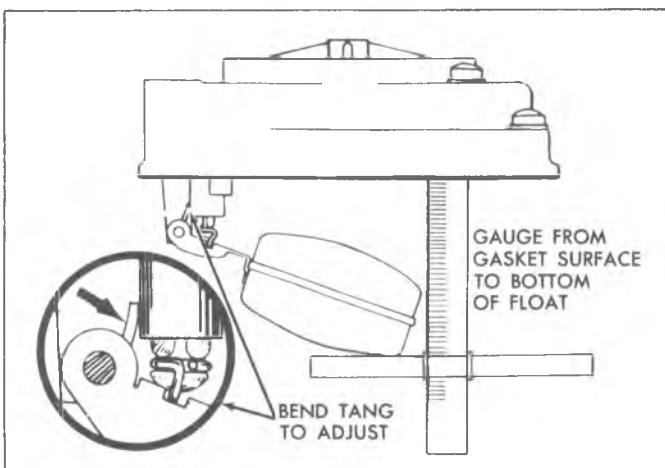

Fig. G8--Float Drop Adjustment (Brass)
2. With the air horn assembly held upright and float suspended freely, measure dimension from air horn gasket to bottom of float pontoon at toe. To adjust, bend the float drop tang adjacent to the float needle seat to obtain specified dimension (fig. G8).